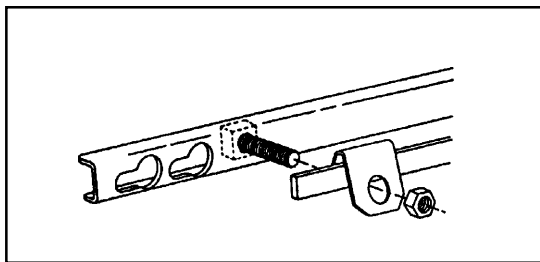

FIGURE 27 – PROPER ALIGNMENT OF PARTS
14.03 For external bonding, the bolt, bonding clip, and nut must be applied to the front (key-hole) LOCKBAR Assembly before mating it with the back LOCKBAR Assembly. Special holes are provided on either side of the front LOCKBAR Assembly for this purpose. The bolt head is applied inside the LOCKBAR Channel. The bonding clip and nut are applied to the bolt on the outside LOCKBAR Assembly face. Refer to Figure 27 for proper alignment of parts.